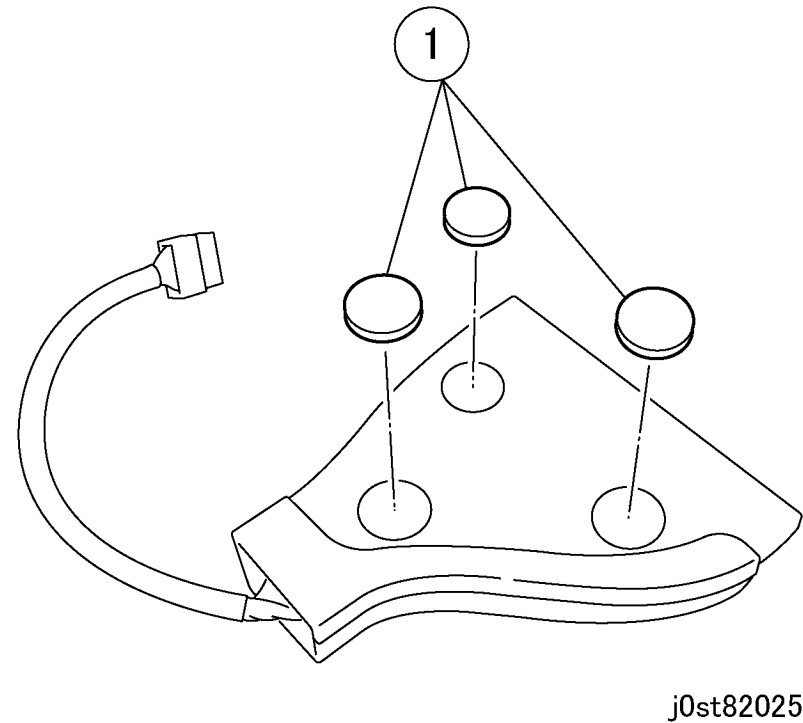

Figure 3 Attaching the Fasteners (j0st82025)
3. Attach the Fasteners to the Foreign Interface. (Figure 3)